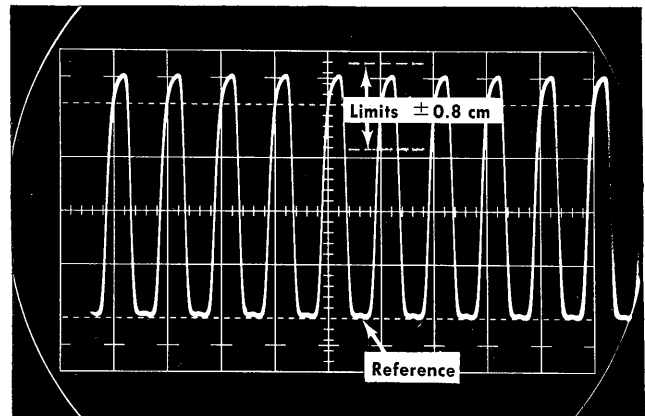

Fig. 6-15. Typical display of Trigger Output signal.
c. Check that the trigger signal amplitude is 200 mV  $\pm$ 40 mV (4 cm  $\pm$ 0.8 cm); see Fig. 6-15. Also check the trigger signal amplitude with the PERIOD switch at 1  $\mu$ s and 10  $\mu$ s.